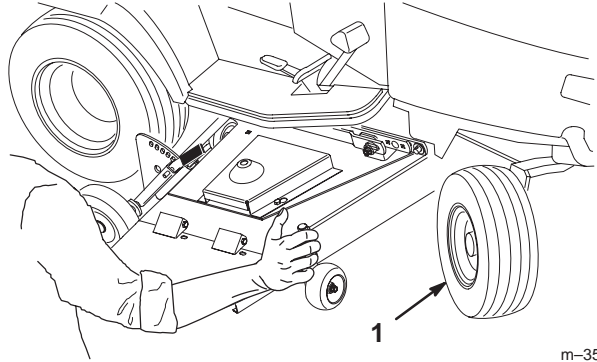

Figure 8
1. From the right side of the tractor, slide the mower under the tractor (Fig. 8).